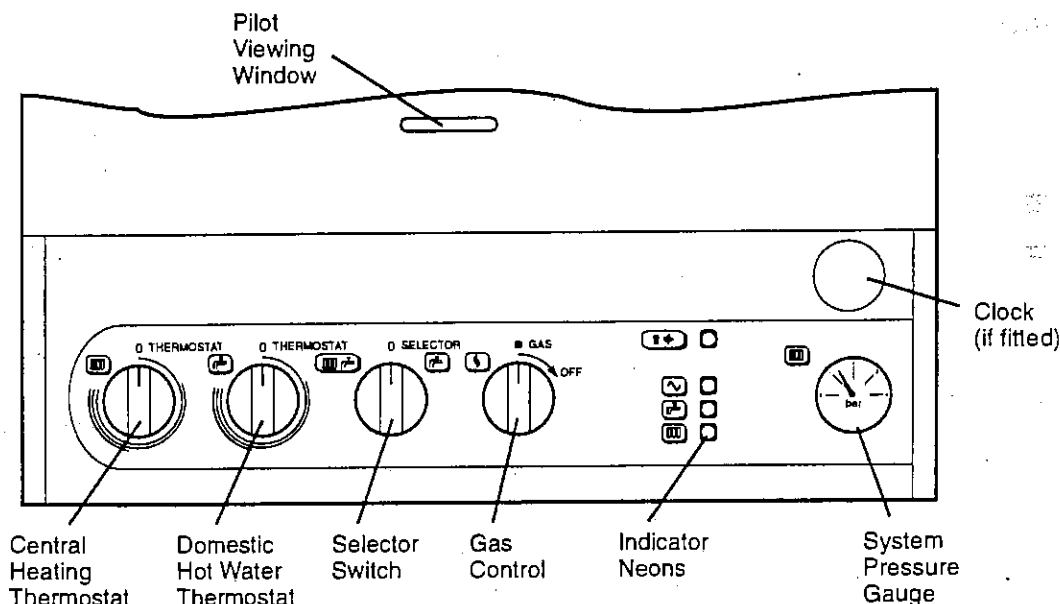

Fig. 15
5.2 BOILER CONTROLS - Fig. 15
5.4 INITIAL LIGHTING - Refer to Fig. 15